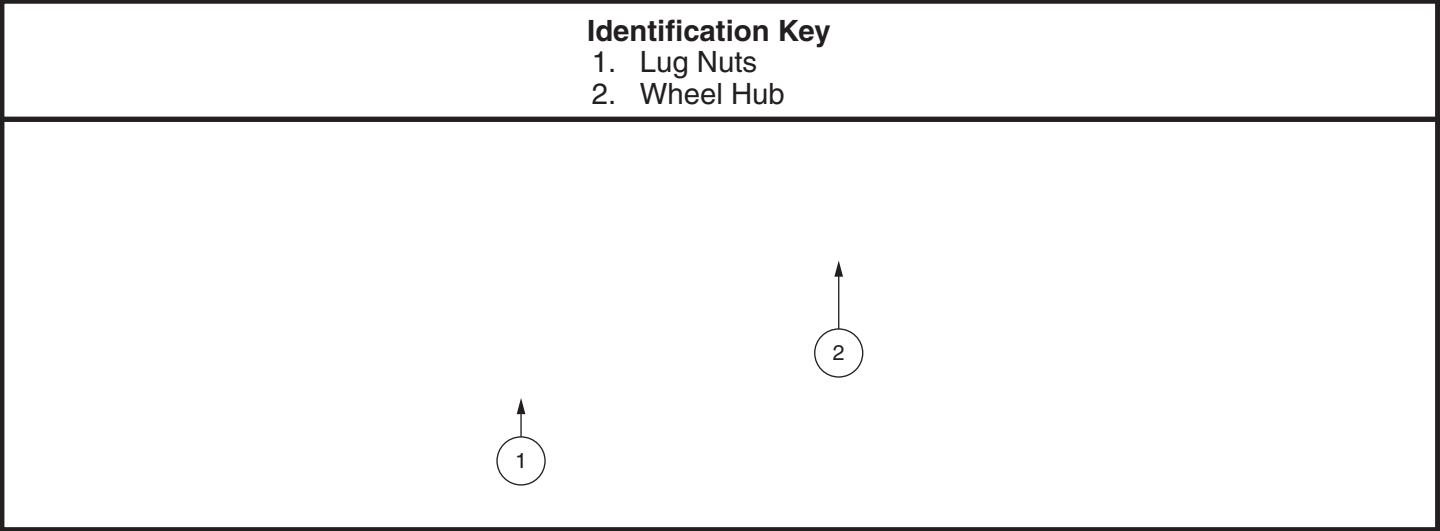

Figure 19. Q6 Series Drive Wheel
4. Remove the five (5) lug nuts from the wheel hub. **See figure 19.**